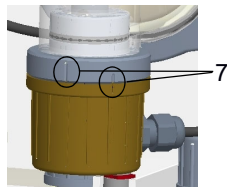

Fig. 24 Section, cap
- 26 Screw the cap on again by turning it to the right as far as the marker (1) (see Abb. 24). Take care not to disconnect the signal cable!